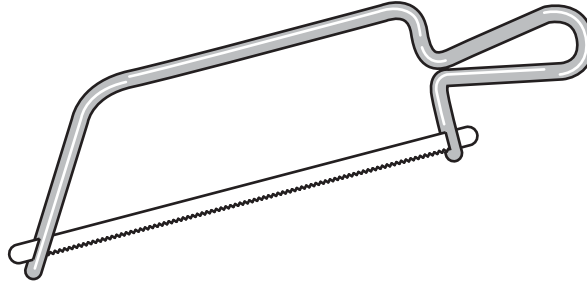

**Fig. 7**
- 16 Fig. 7 shows three different processes used in the manufacture of products.